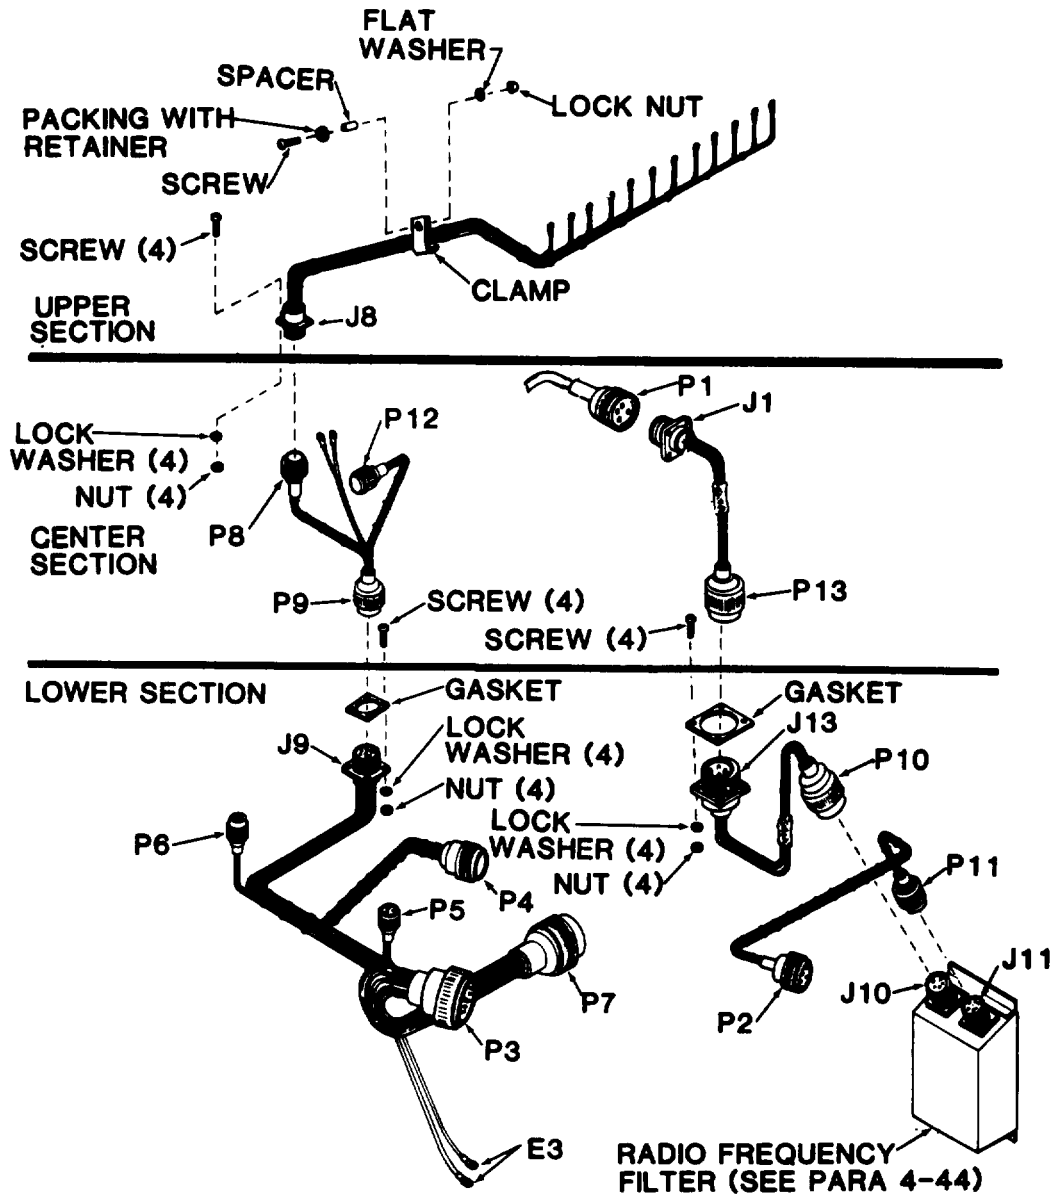

Figure 4-54. Wiring Harnesses
- (1) See paragraph 4-37 for general wire repair instructions.
- (2) See table 4-3 (Wire List) for wire lengths and terminal/connector information.
c. Removal/Installation. See figure 4-54 for removal/installation information.